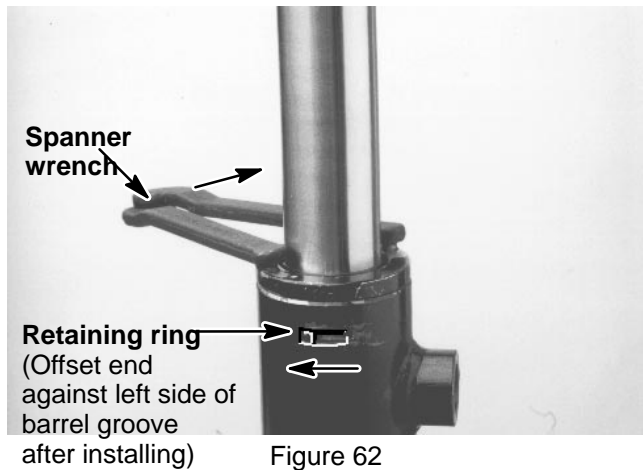

Figure 62
4. Mount barrel (11) in a vise so that the shaft end tilts up slightly.
5. Coat all internal lift cylinder parts with a light coat of hydraulic oil. Slide piston (8), shaft (6), and head (3) assembly into barrel (11) being careful not to damage the seals.
6. Secure head (3) in barrel (11) by installing retaining ring (1). Align key slot in head with the access groove in the barrel. Rotate head clockwise as far as the retaining ring will allow. The offset end of the retaining ring will be against the left side of the barrel groove as shown in Figure 62.